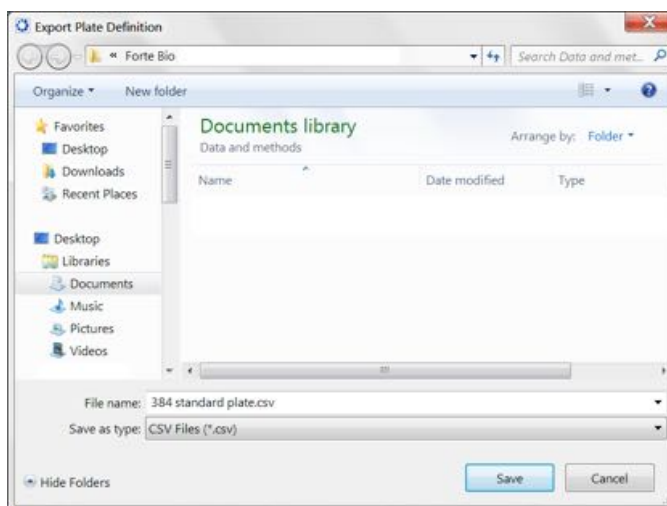

Figure 10-24: Export Plate Definition Window
2. In the **Export Plate Definition** window (see Figure 10-24), select a folder, enter a name for the plate (.csv), and click **Save**.